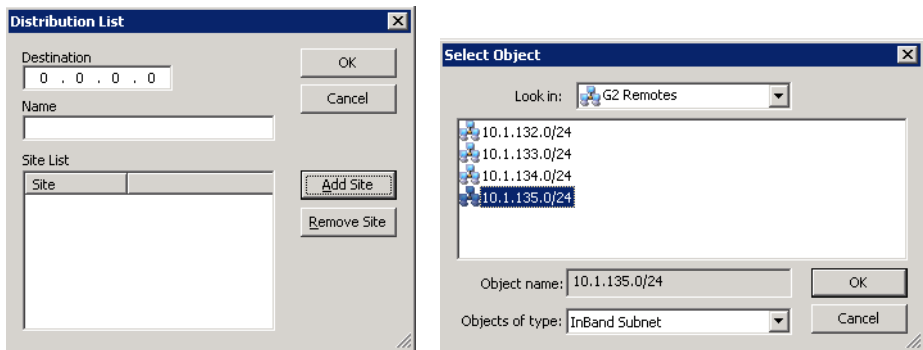

Figure 3-31 Distribution List dialogs
8. The **Distribution List** dialog (figure 3-31) provides a **Destination** box and a **Name** box, and allows the operator to select **Sites** to add to the list.